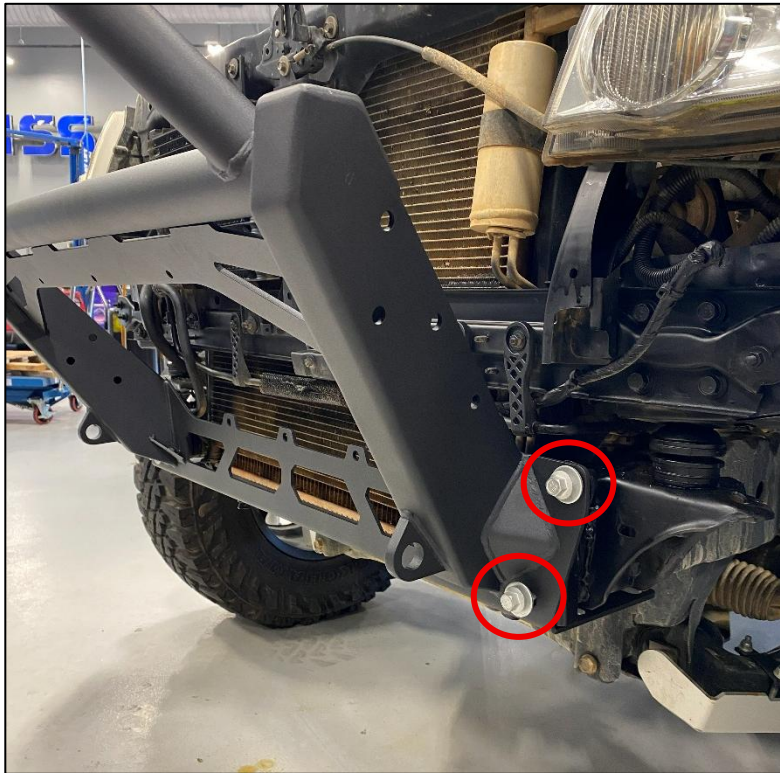

Figure 15
20. Locate the Bumper, (4) four shims, (4) four M12 x 1.25 Flanged Hex Head Screws, 35mm, (4) four M12 x 1.25 Flanged Hex Head Screws, 50mm and (8) eight M12 Washers. Position the Main Bumper to the Frame of the vehicle and loosely secure with (4) four M12 x 1.25 Flanged Hex Head Screws, 35mm with M12 Washers on each bolt. *Figure 15.*